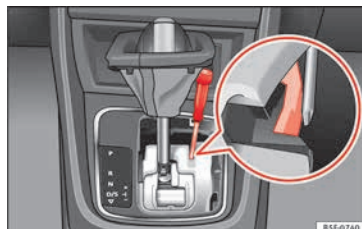

Fig. 55 Selector lever: manual release from position P.
- Using a screwdriver, press and hold the yellow unlocking tab sideways » Fig. 55.
- Now press the interlock button on the selector lever (A) and move the selector lever to position N.